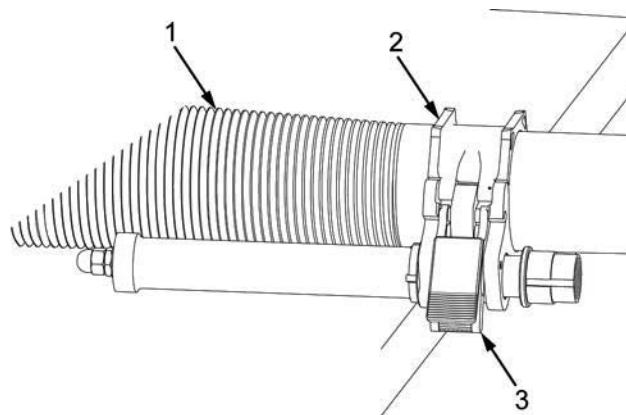

Figure 10. Centering of Cannon.
Ensure cannon is centered and aligned in buffer clamp assembly for proper clamping. Clamping catch should hang off and not rest on work surface. Refer to Figure 10 for proper orientation.
15. Place cannon (Figure 10, Item 1) into buffer clamp assembly (Figure 10, Item 2) and close clamping catch (Figure 10, Item 3).